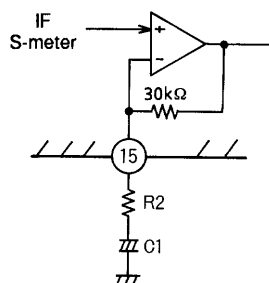

Figure 5
- In the technique in which the S-meter AC component is detected directly the noise amplifier gain is determined by R_2 and the internal 30 k Ω resistance as shown in Figure 5. A certain degree of filtering characteristics can be provided with capacitor C_1 .